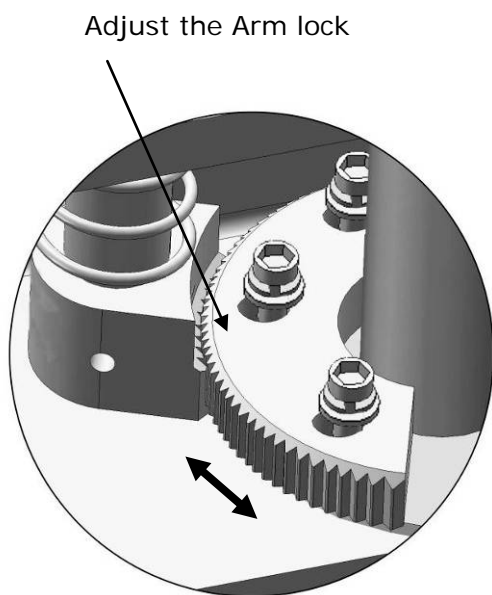

Fig. 27
3. Adjust the arm lock as arrow direction (See Fig. 27).